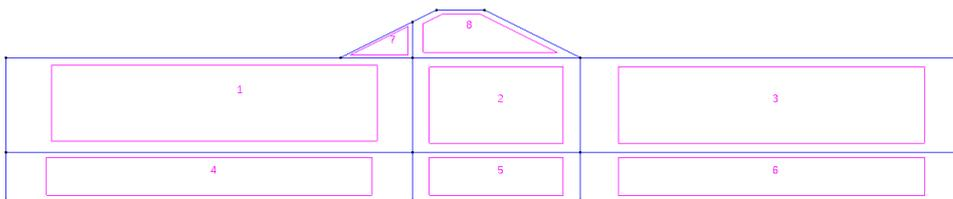

Figure 8.2: Geometry tutorial 1
- 6 Delete line (19) and the attached point by clicking on the  and the  in the Geometry toolbar. The geometry should look like as displayed in Figure 8.2. Further references to surface ID's are made to the ID's as shown in the figure.